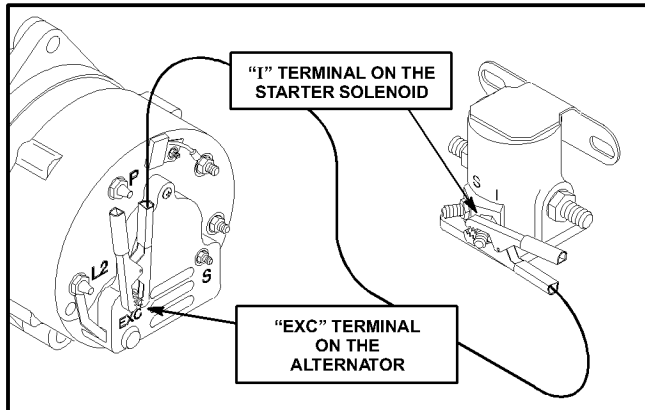

Figure 28
- Clip one end of a jumper wire to the **EXC** terminal on the back of the alternator as shown in Figures 28 & 29 (this terminal will have a green wire connected to it).
- Clip the other end of the jumper wire to the "I" terminal on the starter solenoid (See Figs. 28 & 29).